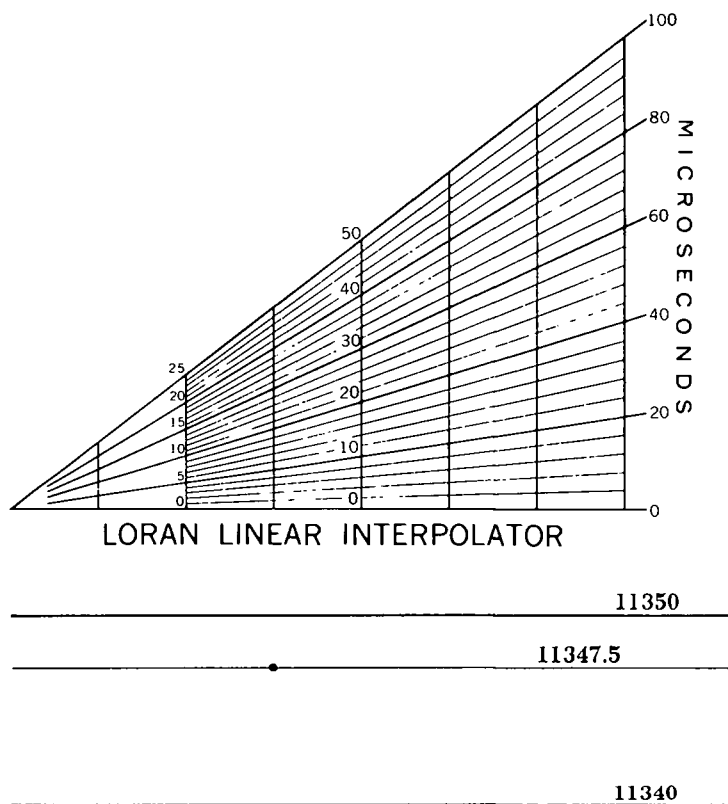

Figure 3.—Use of Loran interpolator
**Loran-C interpolator.** On one corner of each Loran chart is a Loran interpolator (figure 3). Using a pair of dividers, measure off the distance on the chart between the lines 11340 and 11350. This distance is equivalent to 10 microseconds. Then place the dividers on the interpolator, exactly where one point rests on the top line and the other point on the bottom line. Without moving the bottom point, bring the top point straight down to a position 7.5 divisions from the bottom point. (It may help to temporarily pencil in 10, 8, 6, 4, and 2 over the numbers 25, 20, 15, 10, and 5 at the left.)